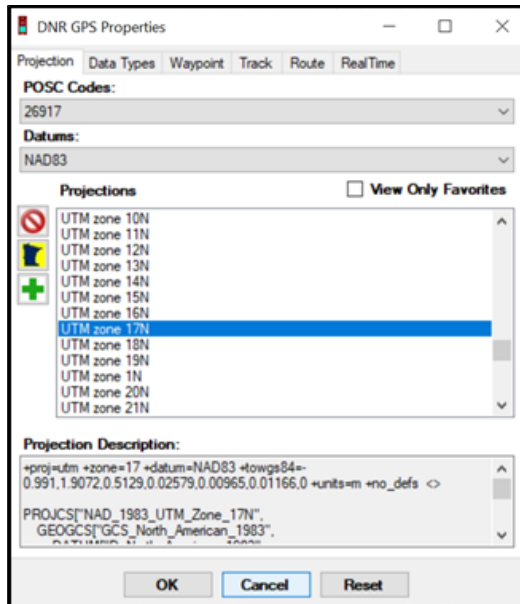

Figure 1. To set the correct projection for the handheld GPS unit use the “Properties” window in the DNR GPS software program.
3. Be sure that the correct projection is displaying (NAD83, UTM Zone 17N). If not, select File > Set Projection. In the DNR GPS Properties (Figure 1) window set the datum to NAD83 and the projection to UTM zone 17N.